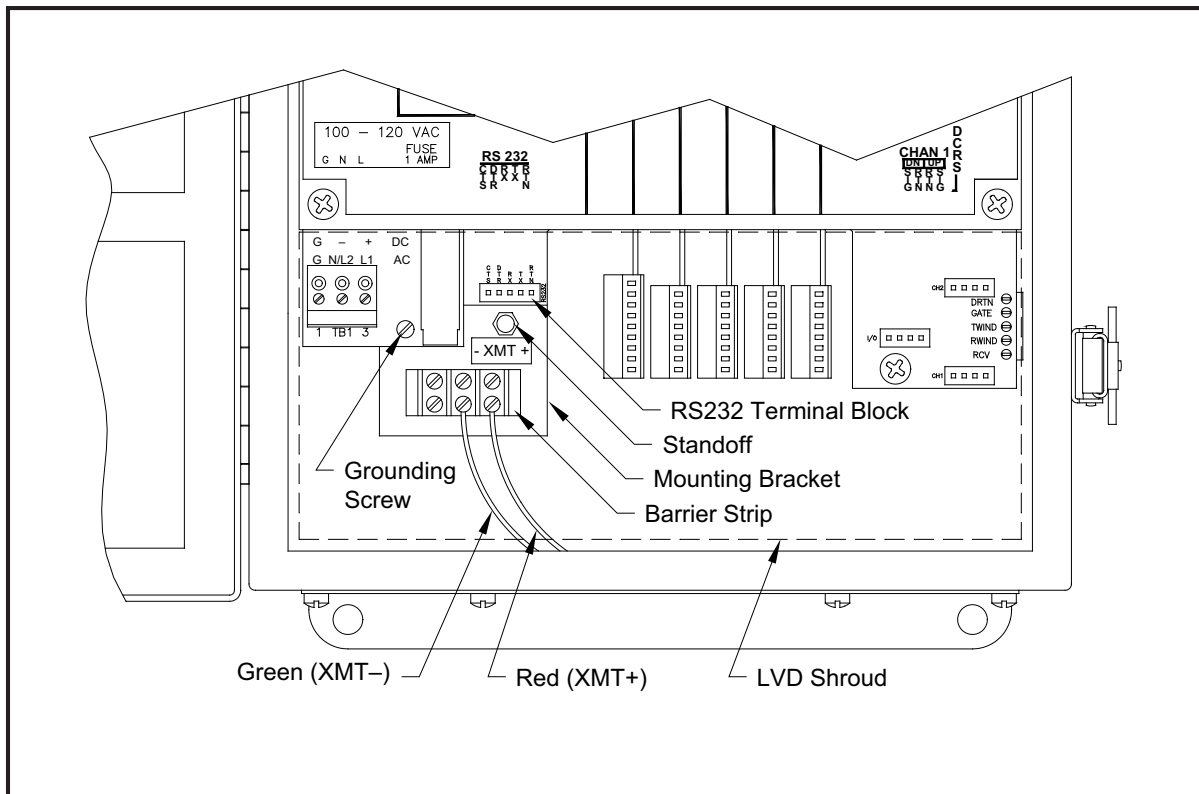

Figure 9: Interface Converter Mounting
A special bracket containing the serial interface converter and a three-terminal barrier strip is mounted inside the Model GF868, just below the RS232 terminal block (see Figure 9). The standard RS232 terminal block is wired to the input of the serial interface converter, and the RS485 output of the serial interface converter is wired to the barrier strip.
Standard factory wiring of the RS485 serial interface is configured for point-to-point wiring. That is, a single Model GF868 may be wired directly to a single personal computer. To connect the RS485 serial interface, refer to Figure 9 on page 77 and complete the following steps:
3. Remove the serial interface converter *mounting bracket* by removing the standoff located just below the RS232 terminal block and the grounding screw on its left (see Figure 9 on page 77).